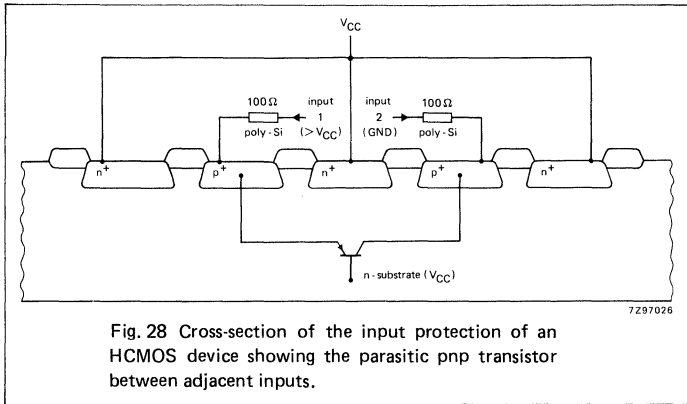
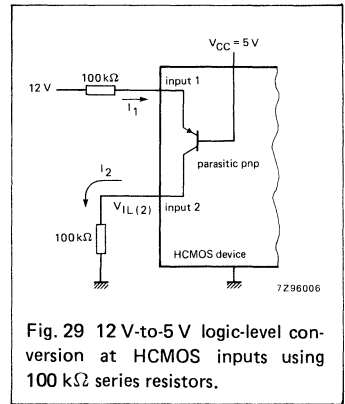

Fig. 28 Cross-section of the input protection of an HCMOS device showing the parasitic pnp transistor between adjacent inputs.
Fig. 29 12 V-to-5 V logic-level conversion at HCMOS inputs using 100 kΩ series resistors.
Parasitic bipolar pnp transistors can be present between adjacent inputs, e.g. between an input protection diode to VCC and the same diode at the adjacent input, as shown in Fig.28. If the recommended operating input voltage is exceeded, perhaps by ringing of more than 0.7 V, current into the terminal (I1) can cause a current I2 in the parasitic transistor and in the adjacent input (Fig.29). Because I2 in the adjacent input has to be drained by the source driving that input, the source resistance (R) must be low. If R is not low enough, the parasitic current can lift the source voltage and cause unwanted switching.
A low α permits proper logic operation in the presence of transients and also allows HIGH-to-LOW voltage translation simply by adding series input resistors. For example, in Fig.29, 12 V system logic is converted to 5 V system logic by adding a 100 kΩ resistor in each input. Since the logic signals are delayed by 1-2 μs, this arrangement is suitable for rather slow 12 V control logic such as that in automotive applications. When the input diodes are used as clamps for logic level translation, the total input current should be limited to 20 mA.